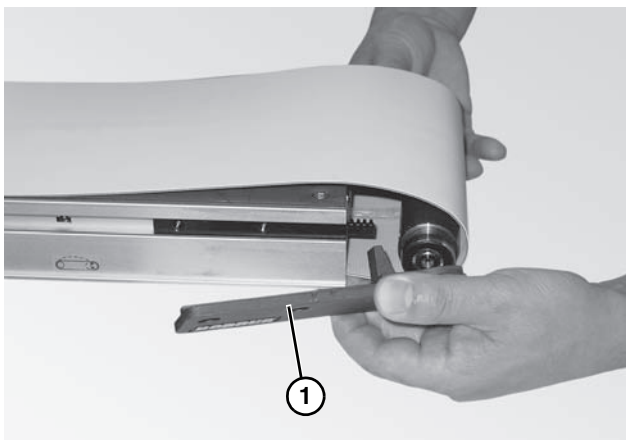

Figure 64
2. Place the head plate (**Figure 64, item 1**) and attach the head plate to the conveyor frame with the two (2) plates removed. tighten screws 60 in-lb (7 Nm).